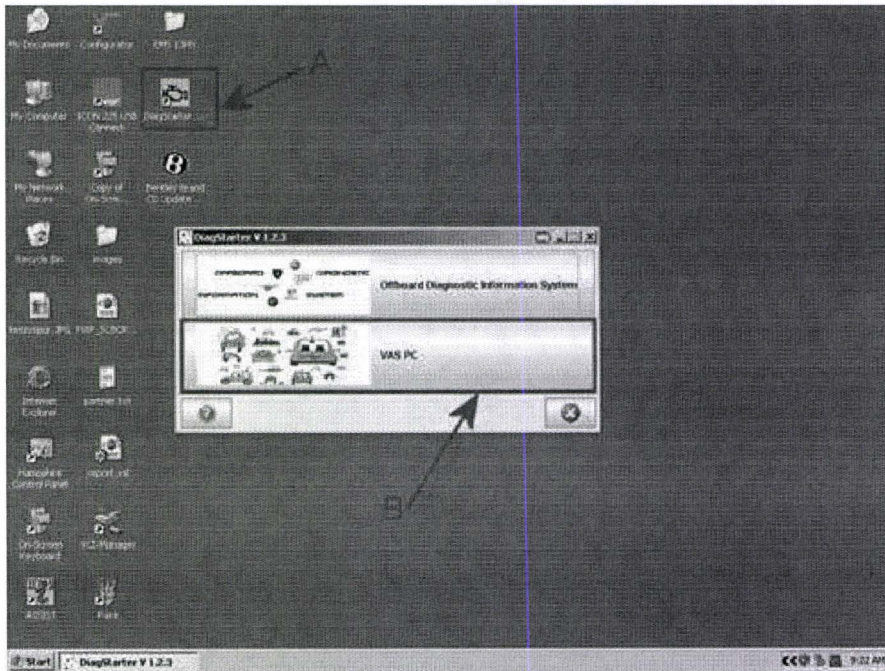

Figure 4
From the Desktop select the Diagstarter icon (Figure 4 Point A), ensure the Offboard Diagnostic Information System Service is completely shut down.
- Select VAS PC (Figure 4 Point B)